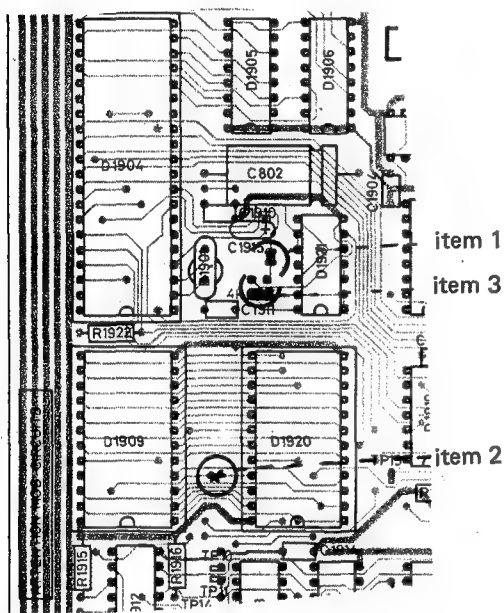
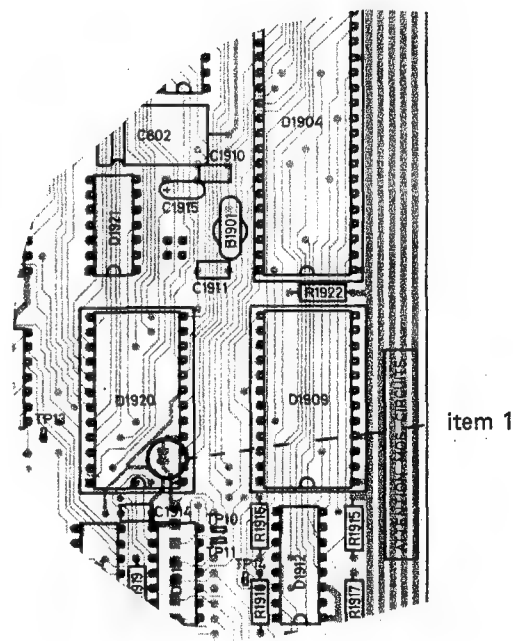

Fig. 1. Main p.c.b. lay-out, component side
Fig. 2. Main p.c.b. lay-out, conductor side
- Unsolder the two soldering spots (see fig 1 and fig 2 item 1)
- Repair the track interruption (see fig 1 item 2)
- Place a jumper. Ordering code 5322 263 64007 (see fig 1 item 3)
- Unsolder the two soldering spots (see fig. 1 and 2 item 1)
- Repair the track interruption (see fig. 1 item 2)
- Place a jumper. Ordering code 5322 263 64007 (see fig. 1 item 3)
The circuit of the Automatic Multimeter PM2521 can be subdivided into three main functional sections as shown in Fig. 1.:
The functional circuit blocks within the three main sections, analog, control and display and the basic signal paths are shown in block diagram Fig. 2.